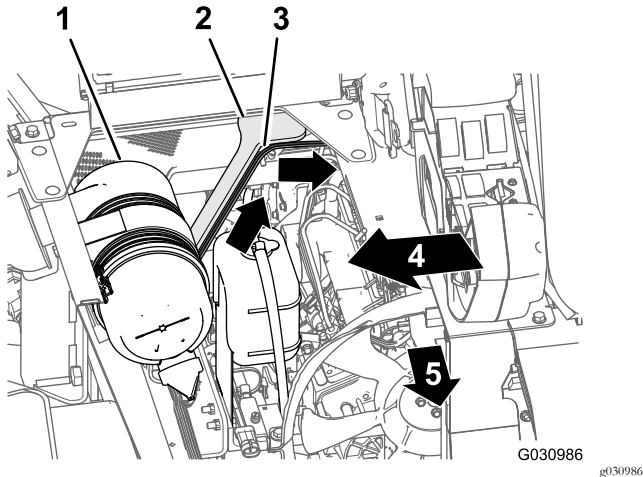

Figure 136
1. Route the 165 cm (65 inches) branch of the wire harness up and into the rear part of the engine compartment, along the right support for the engine shroud—forward of the duct that connects the air filter and the engine (Figure 136).